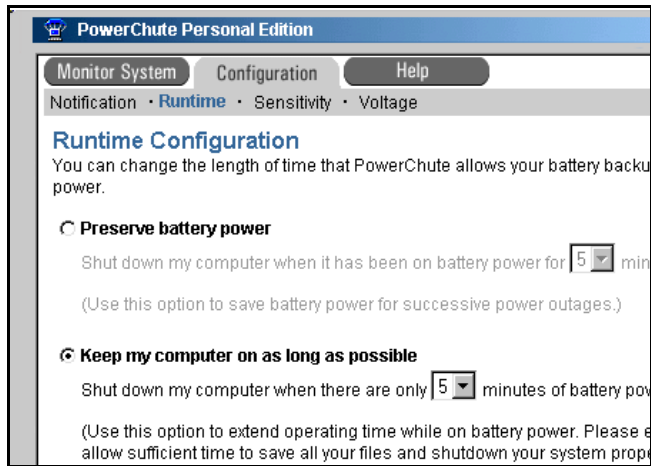

FIG. 3
3. Select the subtab called Runtime. Select “Keep my Computer on as long as possible” and choose 5 minutes from the drop down box. See FIG. 3.